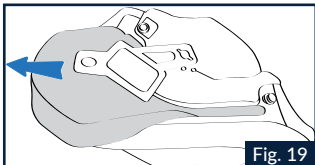

Fig. 19
2.2 Slightly remove the inner expanding foam padding from the fabric lining of the left cheek pad (Fig.19).
(Fig.19). Carefully stretch the padding while checking that there are no creases in the cheek pad fabric lining.